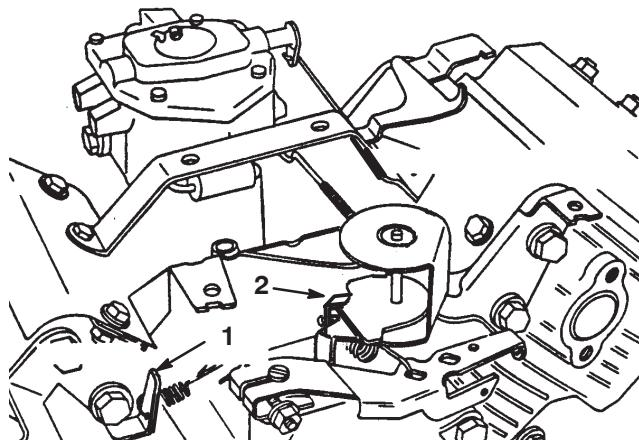

Figure 38
3. Bend the governed idle spring anchor tang (Fig. 38) to attain an idle speed of  $1625 \pm 50$  RPM. Check the speed with a tachometer.
5. Move the throttle control to the Fast position. Bend the high speed spring anchor tang (Fig. 38) to attain a high speed of  $2850 \pm 50$  RPM.